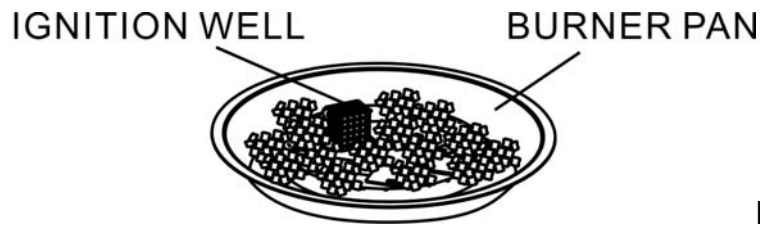

Figure 4
4. Pour ALL the provided media (fire ice) into the burner pan. Burner MUST be completely covered to ensure appliance function properly and safely. Remove any fire ice on top of the ignition well. See figure 4.